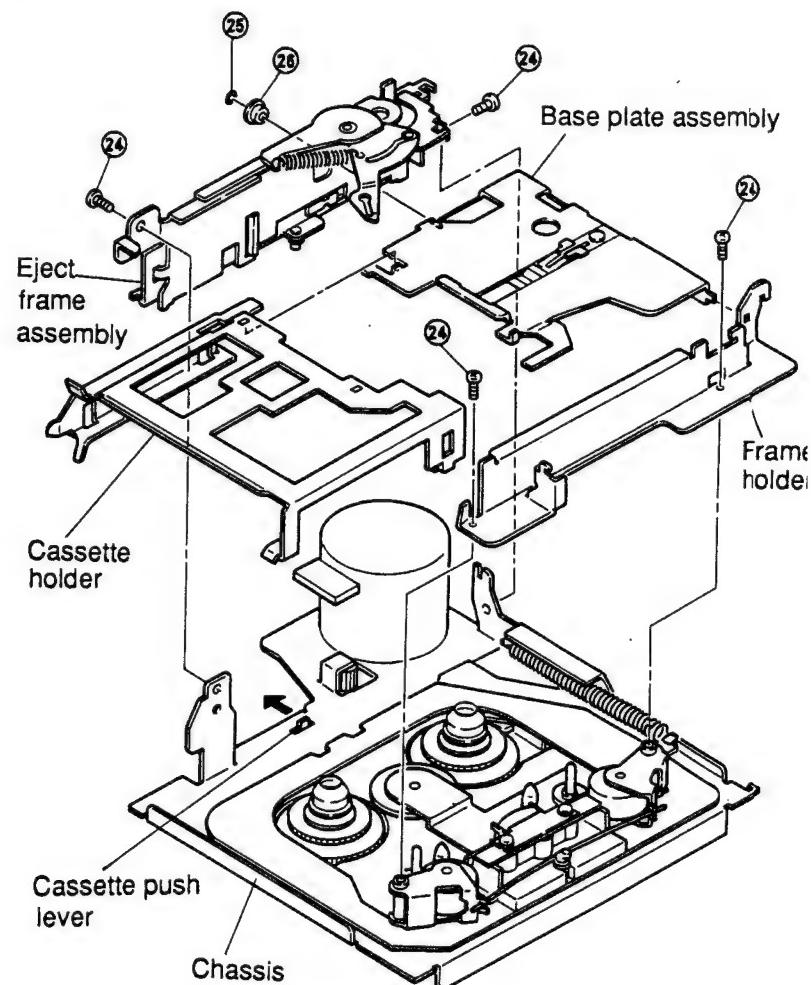

Figure 17
- (1) Remove four screws ④ and remove the eject frame assembly and the frame holder as shown in Figure 17.
- (2) Remove M1.2 lock washer ⑥ and plate base roller ⑦ and remove the cassette holder and the base plate assembly as shown in Figure 17.
- (3) Remount them following the removal steps in the reverse order.
2. When mounting the eject frame assembly, push the cassette push lever in the direction indicated by the arrow in the Figure 17.